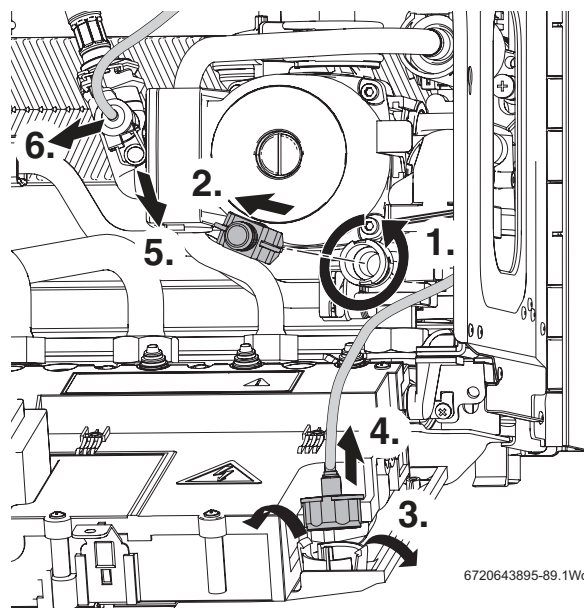

Fig. 124 Drain tap and pressure gauge removal
- ▶ Refer to figure 124
3. Prise the lugs apart (3) securing the pressure gauge to the fascia.
4. Remove the gauge (4) taking care not to damage or kink the capillary.